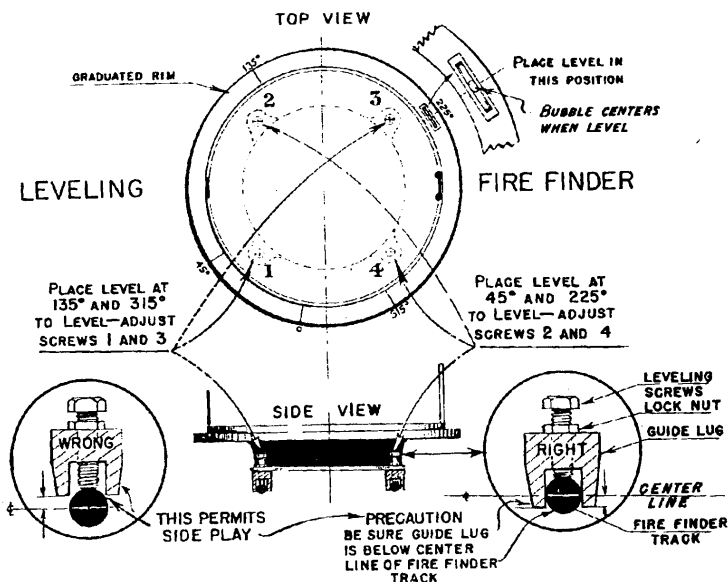

Figure 99 Leveling the Firefinder
- Place a level tube on machined surface of graduate rim (Fig.99) at about 45 degrees (45°) azimuth.
- If the bubble in the level tube is not level, turn leveling screws until bubble in level tube is exactly centered. (See Fig. 99.)
- d. Keep guide lugs on the base of the firefinder below the center of track to prevent side play. WHY: To prevent errors in horizontal readings. The slightest side play will make horizontal angle readings incorrect. (See Fig. 99.)